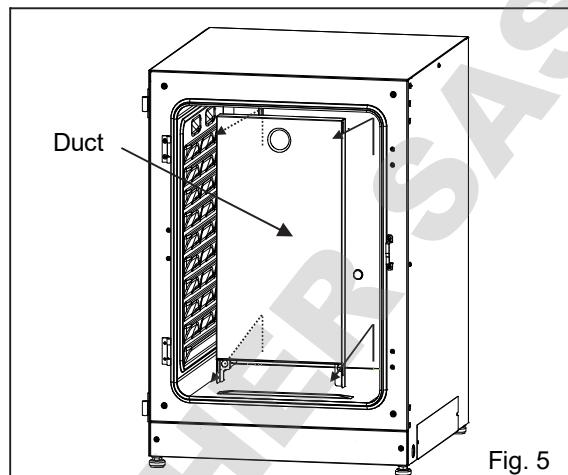

Fig. 5
Note: Two hooks are attached at the upper rear of the incubator. When stacking incubators, fix the upper incubator to the wall with these hooks and wire or chain (Fig. 5).
6. Loosen the screws at the rear and lift out the duct (Fig. 5).